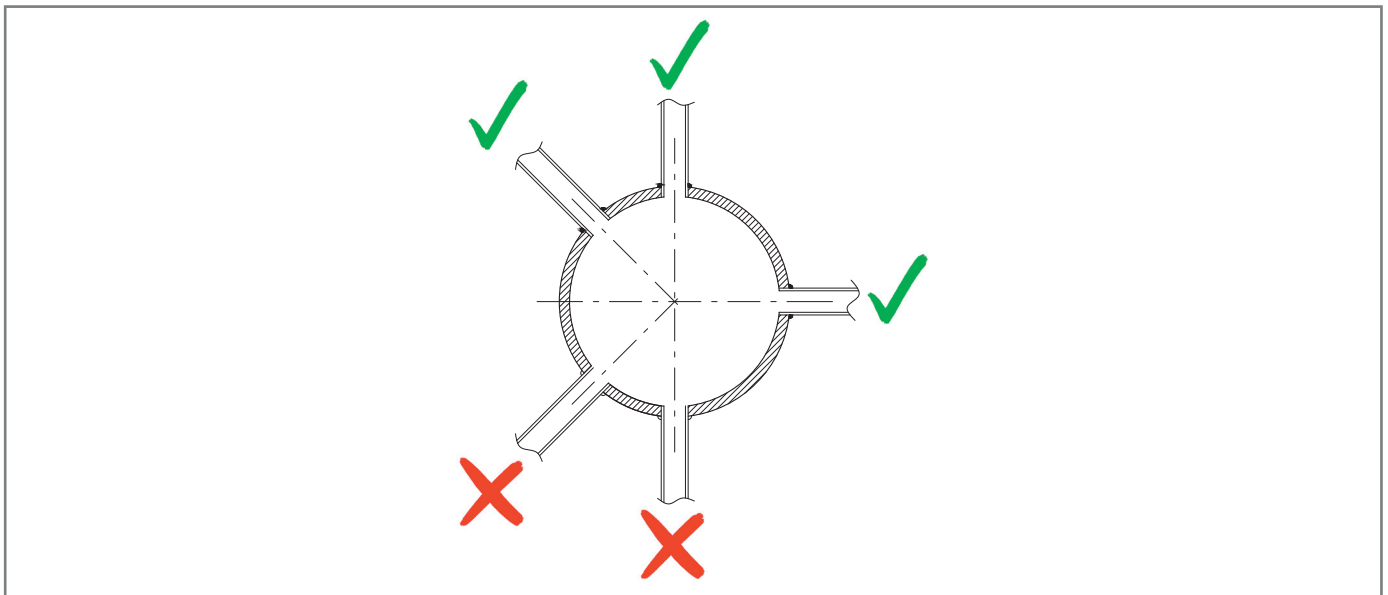

Fig. 6.19. Welded pipe connections
- the connections of the pneumatic connection are always welded to the top or horizontal axis of the pipe itself (refer to fig. 6.19);